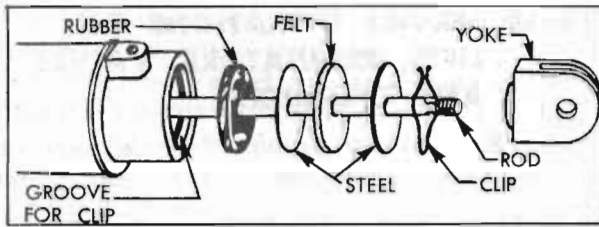

Figure 13-63—Power Cylinder Oil Seal Parts
6. Unsnap oil seal washer retaining clip from groove in cylinder, then pull piston rod out until both steel washers and the felt washer can be removed. Use a sharp pick to remove the rubber oil seal washer. See figure 13-63.
7. Install new rubber washer, felt washer, and clip from the oil seal package. Install all parts in the order shown in figure 13-63.